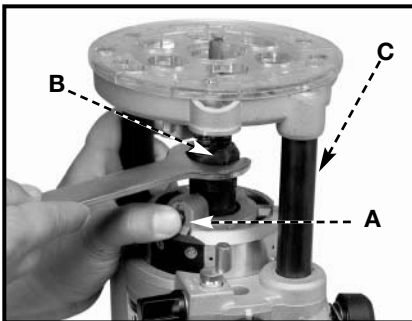
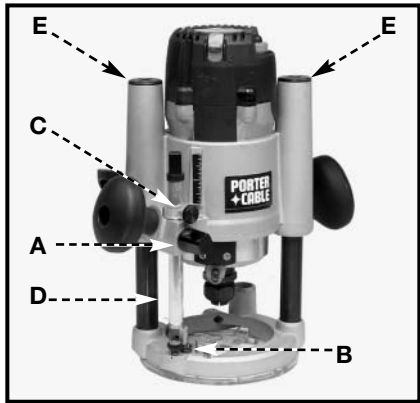

Fig. 8B
Fig. 11
1. Stand the router upside down on its motor cap (Fig. 8B).
3. Press the spindle lock button (A) Fig. 8B, and place a wrench on collet nut (Fig. 8B). Tighten firmly.
If you remove the springs from the posts (E) Fig. 11 to use the plunge base in a router table, remove the post plugs carefully. They are spring-loaded and should be removed only when the base housing is in the up position (Fig. 8B).
1. Loosen the depth rod locking knob (A) Fig. 11, and depth indicator knob (C) Fig. 11, allowing the depth rod (D) Fig. 11 to contact one of the turret stops (A) Fig. 12. Normally the deepest desired cut is set with the depth rod resting on the base casting (B) Fig. 11. The other three adjustable stops (A) Fig. 12 may be adjusted to any desired height. Any combination of fixed and/or adjustable stops may be utilized to achieve the desired depths required for a particular job. The adjustable stop (B) Fig. 12 will raise or lower that stop by 1/32" with one full turn of the stop.
3. Tighten the depth-rod locking knob (A) Fig. 11.
4. Position the depth indicator (C) Fig. 11 at the "0" position and tighten the knob (C) Fig. 11.
5. Loosen the depth-rod locking knob (A) Fig 11, and raise until the indicator aligns with the graduation representing the desired depth of plunge (Fig. 13).